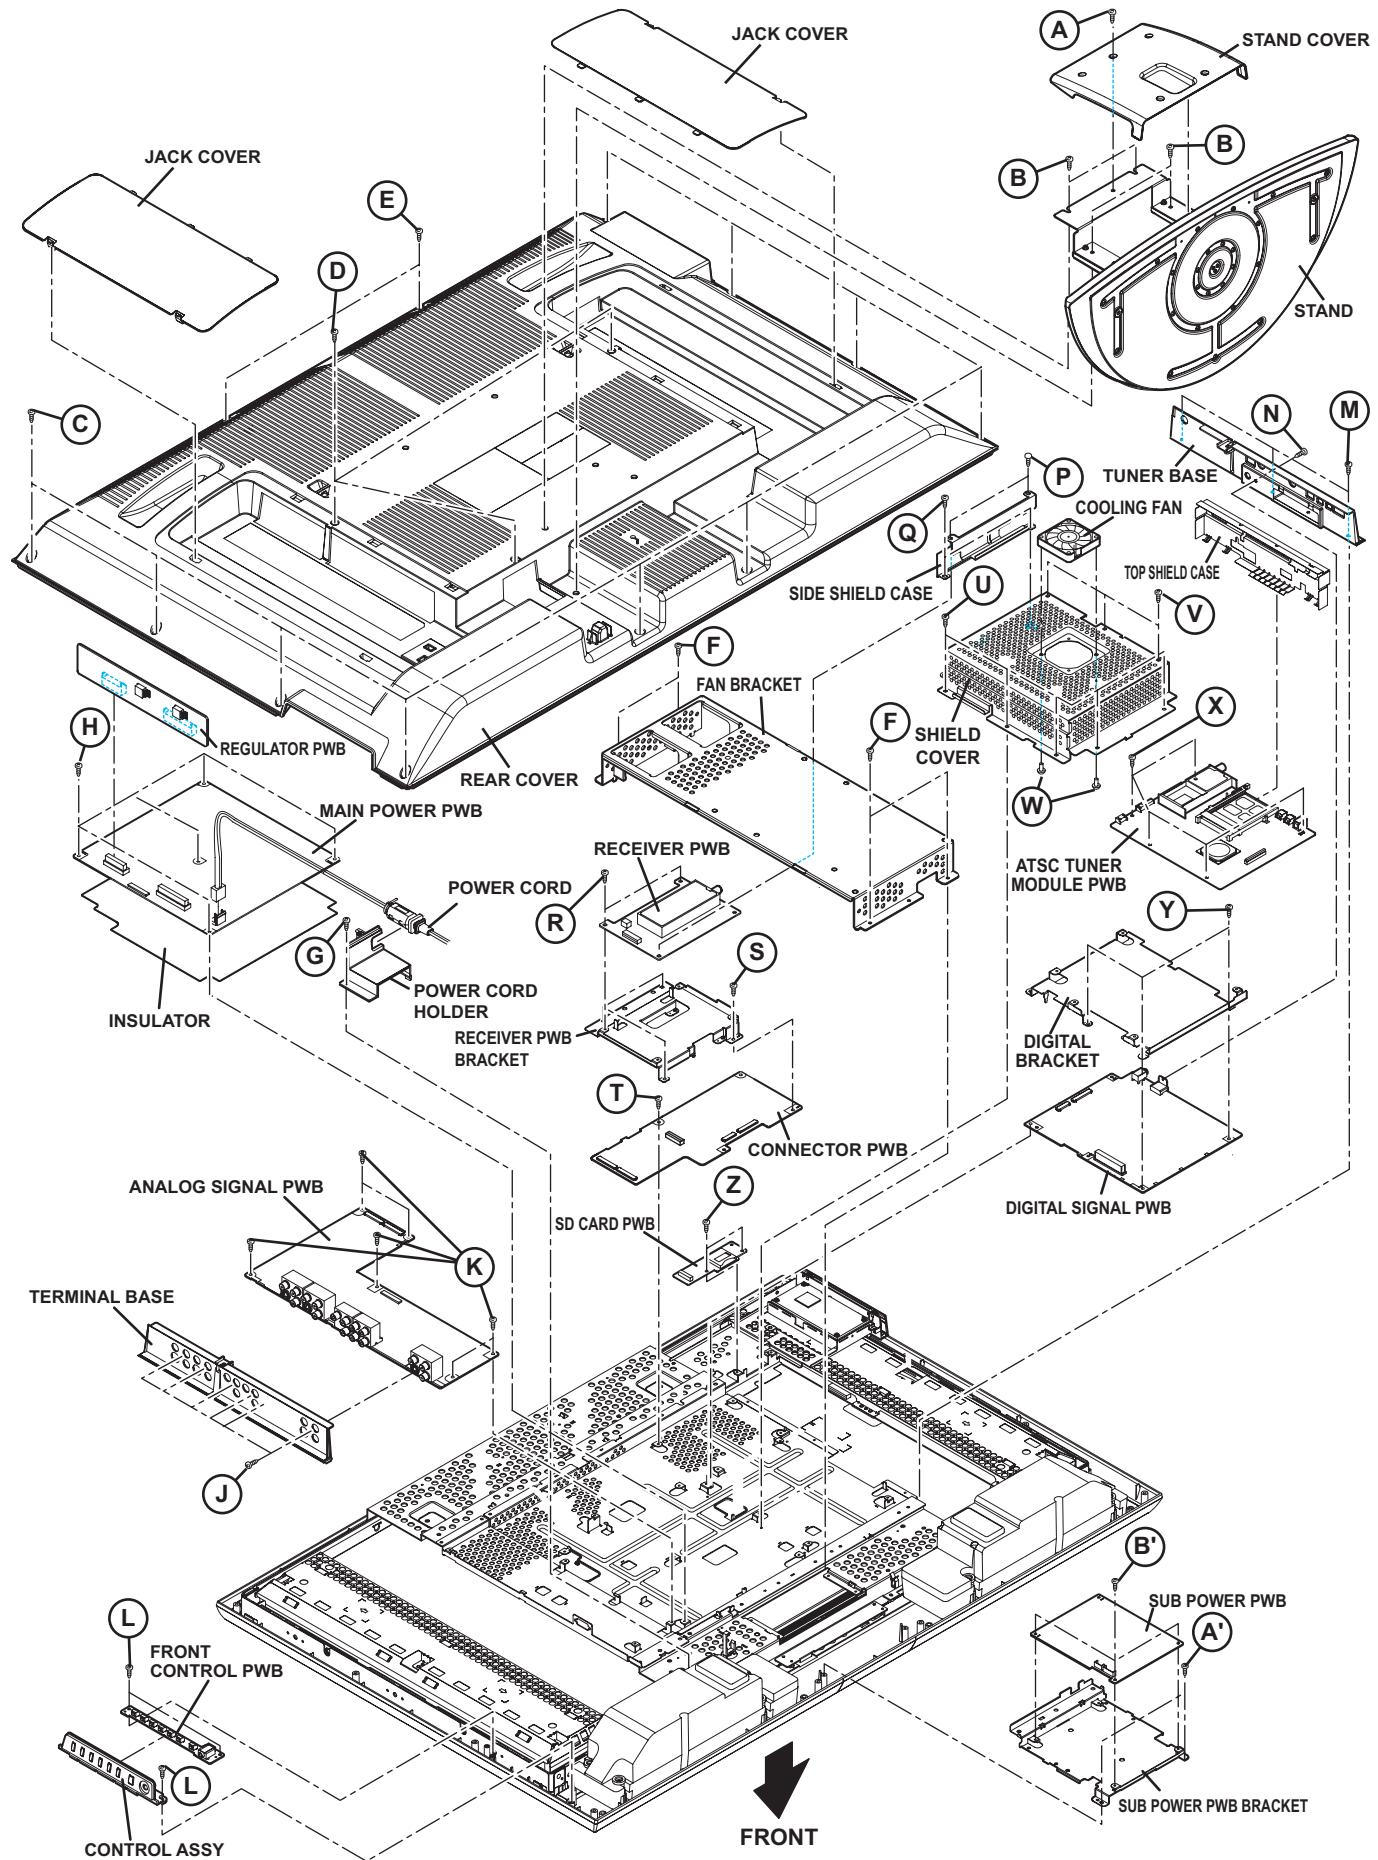

Fig.1
3.2.1 REMOVING THE STAND (Fig.1)
- (1) Remove the 1 screw [A], then remove the STAND COVER.
- (2) Remove the 4 screws [B], then remove the STAND.
3.2.2 REMOVING THE REAR COVER (Fig.1)
3.2.3 REMOVING THE REGULATOR PWB (Fig.1)
3.2.4 REMOVING THE MAIN POWER PWB (Fig.1)
- (1) Remove the 4 screw [H], then remove the MAIN POWER PWB.
3.2.5 REMOVING THE ANALOG SIGNAL PWB (Fig.1)
- (1) Remove the 6 screws [J], then remove the TERMINAL BASE.
- (2) Remove the 5 screws [K], then remove the ANALOG SIGNAL PWB.
3.2.6 REMOVING THE FRONT CONTROL PWB (Fig.1)
- (1) Remove the 3 screws [L], then remove the CONTROL ASSY with the FRONT CONTROL PWB.
- (2) Remove the FRONT CONTROL PWB.
3.2.7 REMOVING THE RECEIVER PWB (Fig.1)
3.2.8 REMOVING THE CONNECTOR PWB (Fig.1)
- (1) Remove the 4 screws [S], then remove the RECEIVER PWB BRACKET.
- (2) Remove the 1 screw [T], then remove the CONNECTOR PWB.
3.2.9 REMOVING THE COOLING FAN (Fig.1)
- (1) Remove the 5 screws [U] and the 3 screws [V], then remove the SHIELD COVER with COOLING FAN.
- (2) Remove the 2 ribets [W], then the remove the COOLING FAN.
3.2.10 REMOVING THE ATSC TUNER MODULE PWB (Fig.1)
- (1) Remove the 5 screws [X], then remove the DIGITAL TUNER UNIT.
3.2.11 REMOVING THE DIGITAL SIGNAL PWB (Fig.1)
- (1) Remove the 3 screws [Y], then remove the DIGITAL BRACKET.
- (2) Remove the DIGITAL SIGNALPWB.
3.2.12 REMOVING THE SD CARD PWB (Fig.1)
- (1) Remove the 2 screws [Z], then remove the SD CARD PWB.
3.2.13 REMOVING THE SUB POWER PWB (Fig.1)